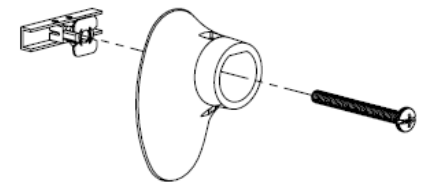

Figure 4
STEP 3. Drill 1/2" holes at the marked locations for each standoff, then insert a toggle in each hole (see toggle instructions on page 4). Using the 1/4-20x4" hardware supplied by Nudo attach the standoffs to the wall along the run (see Figure 4).